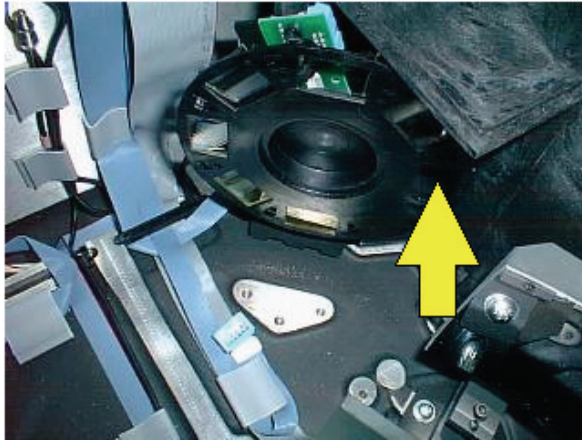

Figure 64 Position of the emission entrance slit
20. Observe the emission entrance slit through the open aperture in the emission filter wheel, as shown in Figure 64.